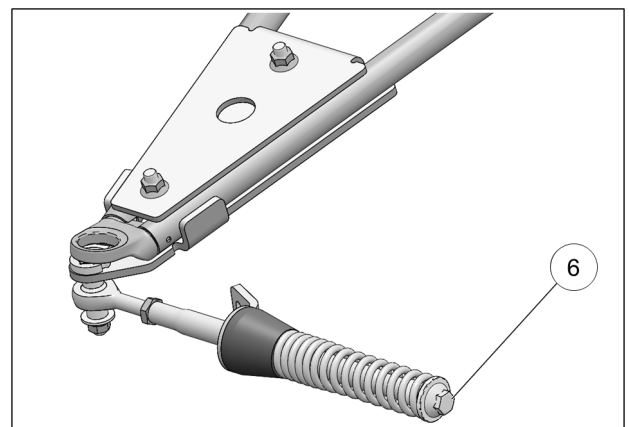

Fig. 22
- Verify that spring assembly bolt (**6**) is tightened to the recommended torque specification: 75 N•m [55 lb•ft]. Refer to Fig. 22